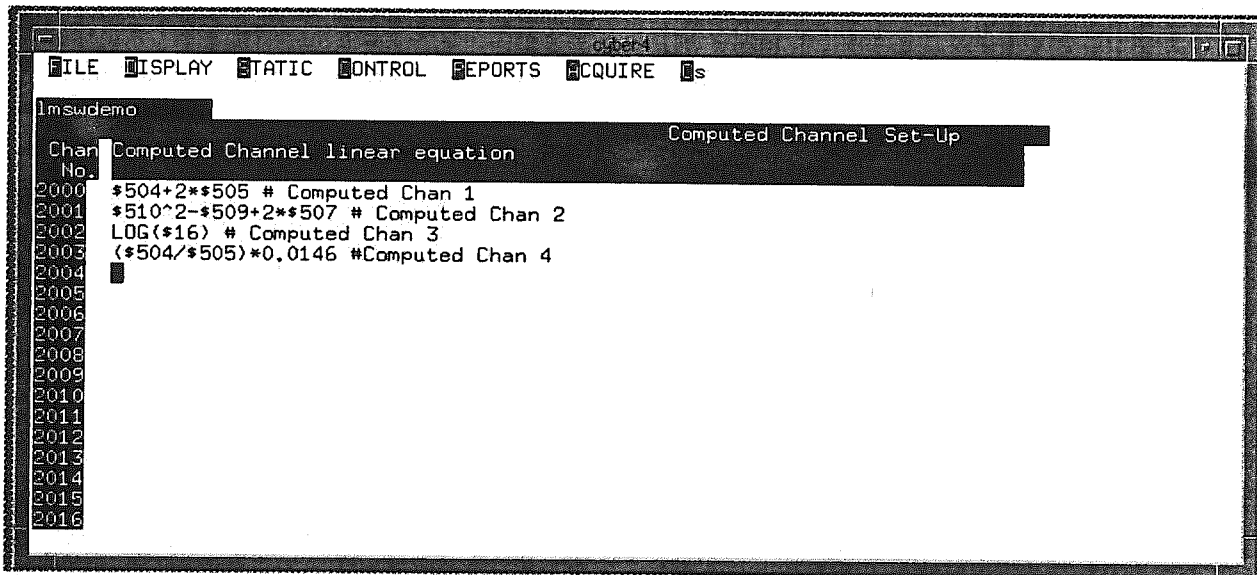

Figure 8-5 Defining Computed Channels
- Step 1:** Select the **ACQUIRE** menu, **COMPUTED CHANNELS** option. The Computed Channel setup screen shown in **Figure 8-5** is displayed. You should notice the Chan No column which automatically numbers each computed channel starting with the number #2000.